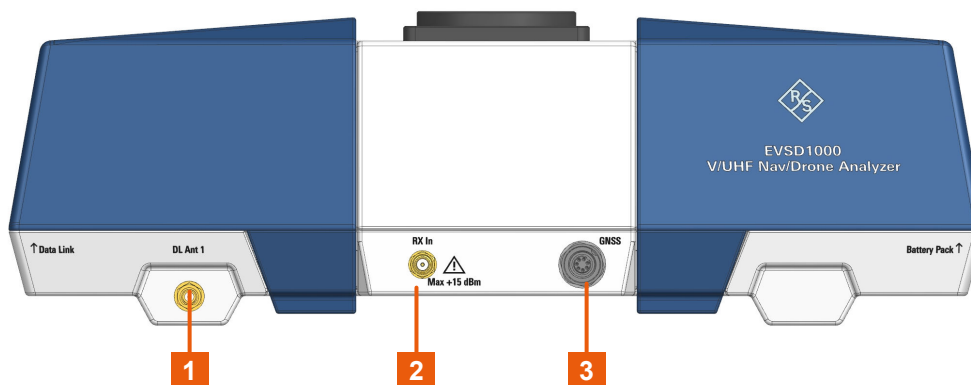

Figure 5-2: R&S EVSD1000 - Left panel view
3. Using the provided GNSS cable, connect the GNSS receiver to the "GNSS" connector on the left panel of the R&S EVSD1000 (see Figure 5-2).